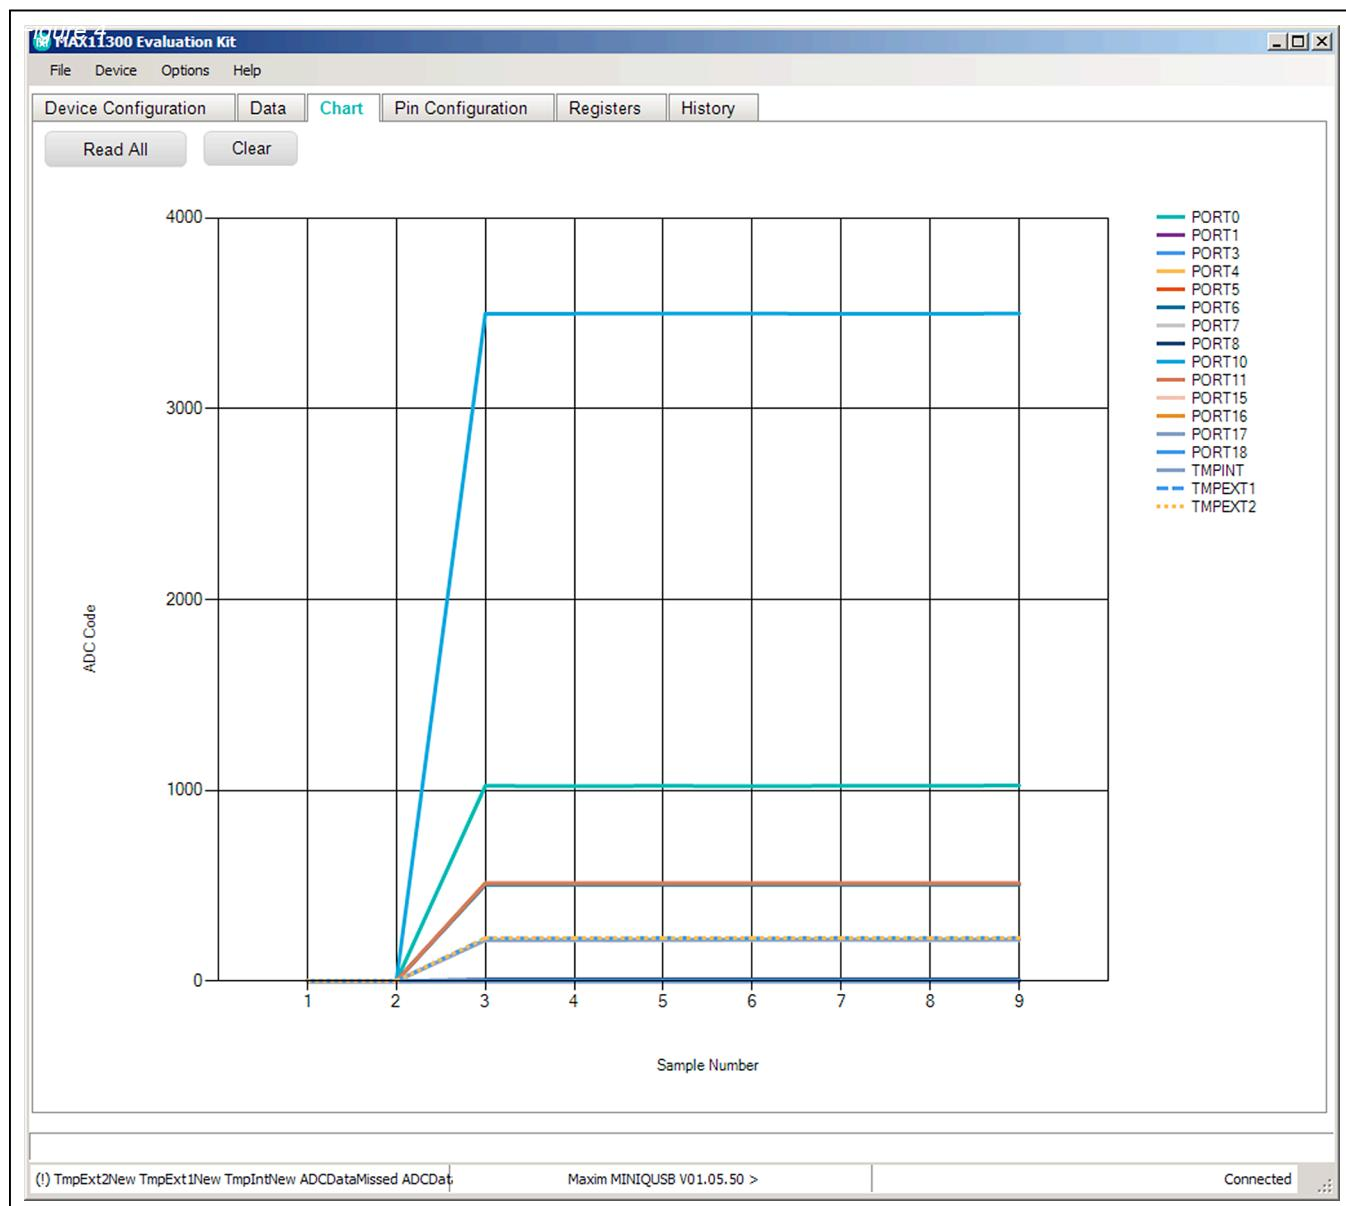

Figure 4 Chart Tab
**Out** or **GPO Out** controls, or provide ADC or GPI input values. Pins configured for GPI input can be used as interrupt sources by double-clicking in the **Interrupt** cell. Select the **Chart** tab (Figure 4), then check **Options** menu | **Polling** to show the analog inputs on a graph.